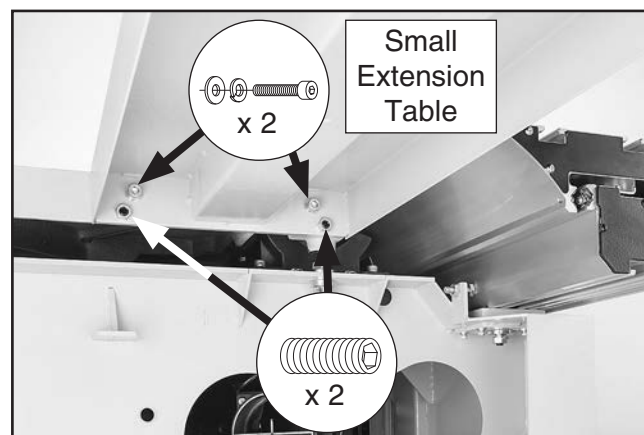

Figure 24. Small extension table attached to cabinet.
11. Attach small extension table to cast-iron table with (2) M10-1.5 x 25 cap screws, (2) 10mm flat washers and (2) 10mm lock washers (see **Figure 24**). Finger-tighten for now.
12. Thread (2) M10-1.5 x 20 set screws with (2) M10-1.5 hex nuts where shown in **Figure 24**.
— If both tables are *not* parallel with straight-edge, loosen hex nuts on set screws shown in **Figure 24**. Adjust set screws to align top of small extension table with top of cast-iron table, then retighten hex nuts to secure setting.